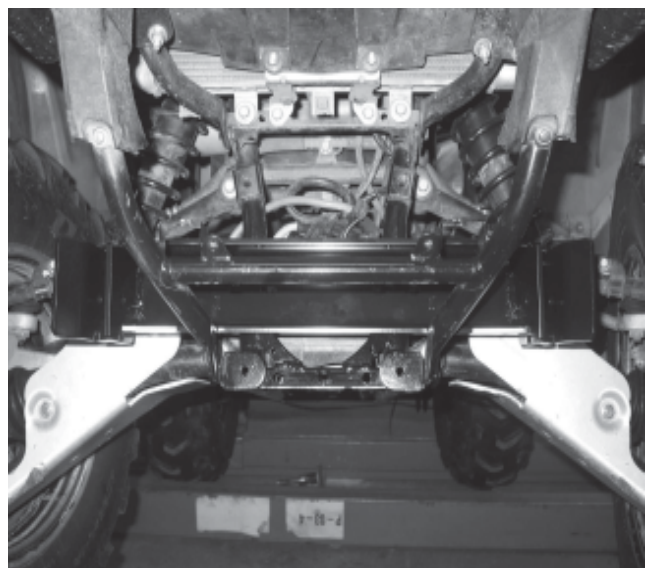

Figure 3
5. Place the 2 M8-1.25 U-bolts (B1) into position around the frame rails and into the plow mounting plate. Attach using 2 flat washers (B2) and 2 M8-1.25 locking hex nuts (B4) see figure 3.